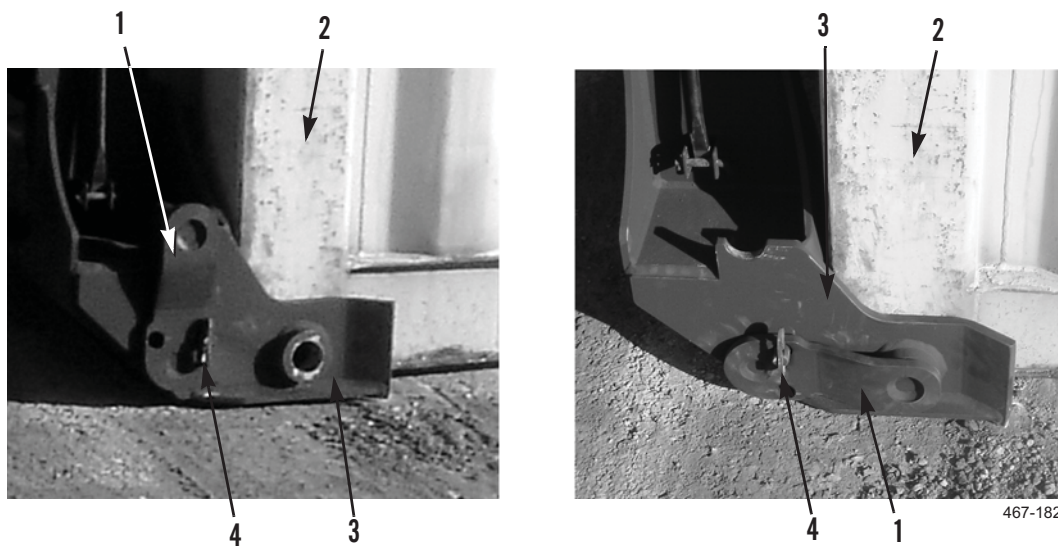

Figure 15. Lock Lower Guides.
1. Check that hole in each lower guide (Figure 15, Item 3) is aligned with aperture in side of corner casting of container (Figure 15, Item 2). Small amounts of misalignment may be acceptable.
2. Release anti-loose fastener (Figure 15, Item 4) that secures lower locking plate (Figure 15, Item 1).
3. Pull out locking plate (Figure 15, Item 1) and rotate it 90° to align locking pin with locking hole in lower guide (Figure 15, Item 3).
4. Push locking plate (Figure 15, Item 1) to fully insert locking pin through locking hole in lower guide (Figure 15, Item 3) and into corner casting.
5. Lock anti-loose fastener (Figure 15, Item 4) to hold locking plate (Figure 15, Item 1) in position.